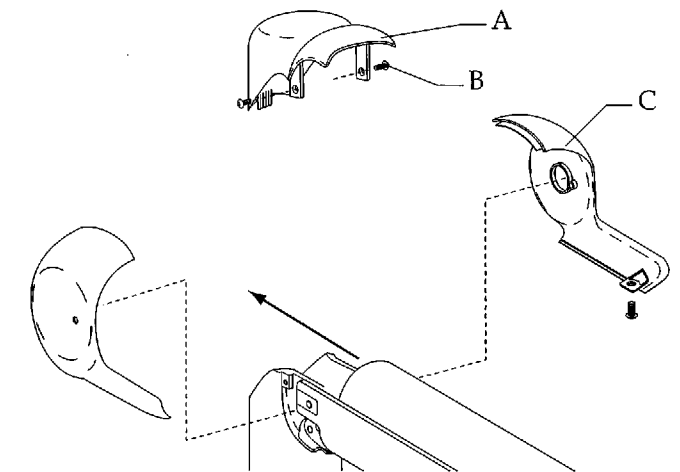

Figure 73. Attaching covers. (A) post cover; (B) screws; (C) knuckle covers
1. Attach the post cover using two screws (see Figure 73).